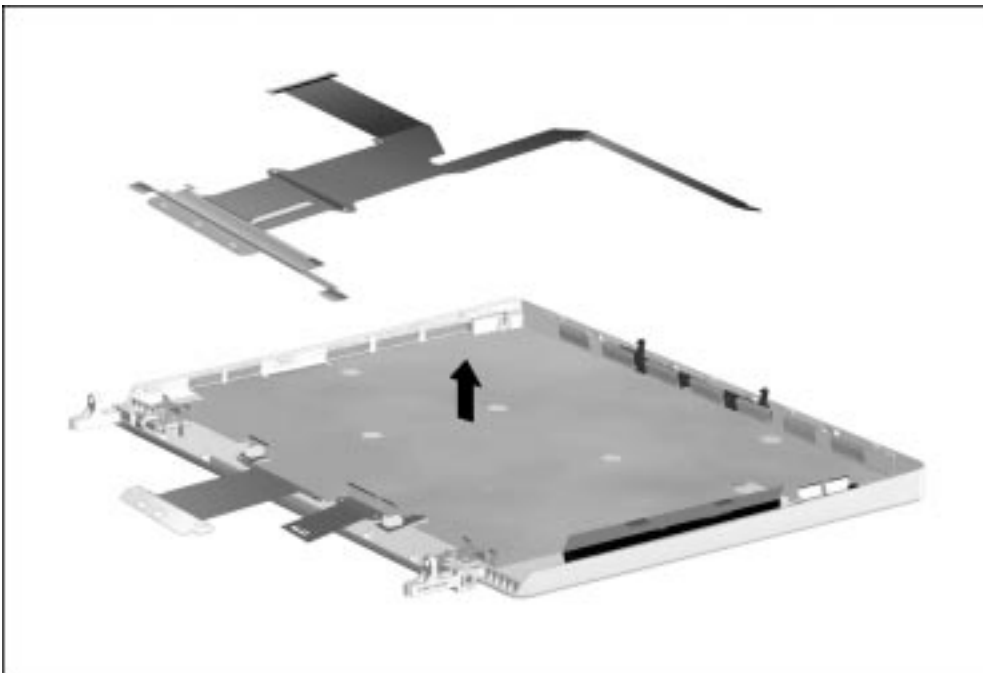

Figure 5-69. Removing the Display Video Cable
10. Lift the display video cable out of the display enclosure (Figure 5-69).